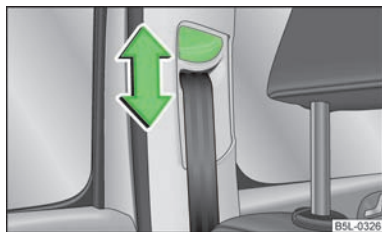

Fig. 120
- Press the height adjuster and move up or down in the desired direction » Fig. 120.